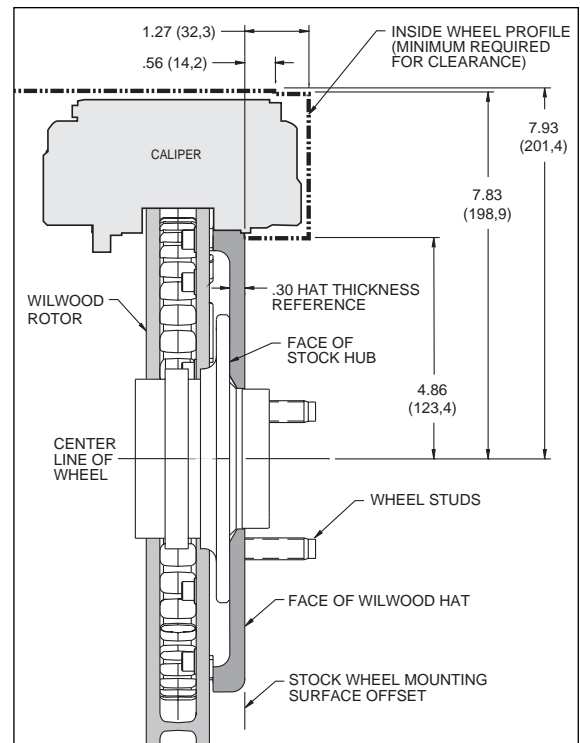

Figure 2. Wheel Clearance Diagram
(1) FITS 2000-2003 OE C-5, Z06 AND SPECIALITY AFTERMARKET WHEELS, CHECK WHEEL CLEARANCE DIAGRAM, FIGURE 2
Before any tear-down or disassembly begins, review the wheel clearance diagram (Figure 2, page 3) to verify that there is adequate clearance with the wheels you will be using with this installation.
- Verify your wheel clearance using Figure 2.